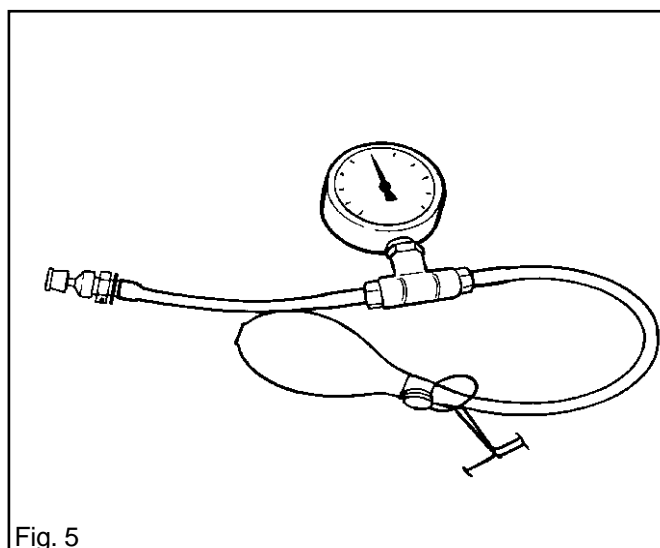

Fig. 5
8. Pressure test the decompression valve as follows. See also fig. 5.